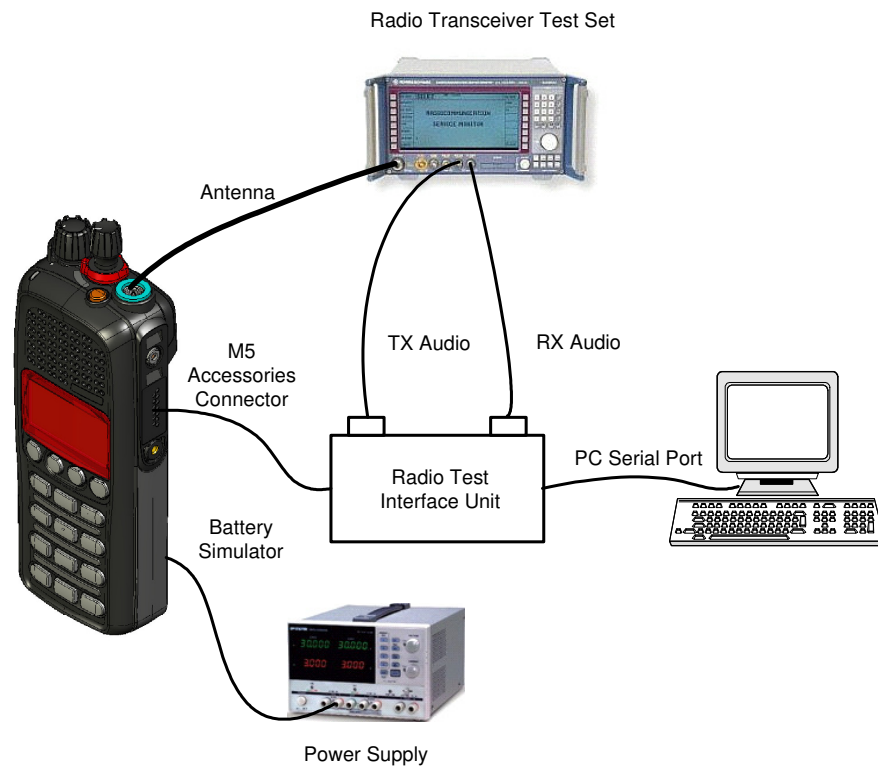

Figure 5-1 Test Set-Up
Refer Figure 5-1.
1. Connect the radio to the test equipment as shown in Figure 5-1.